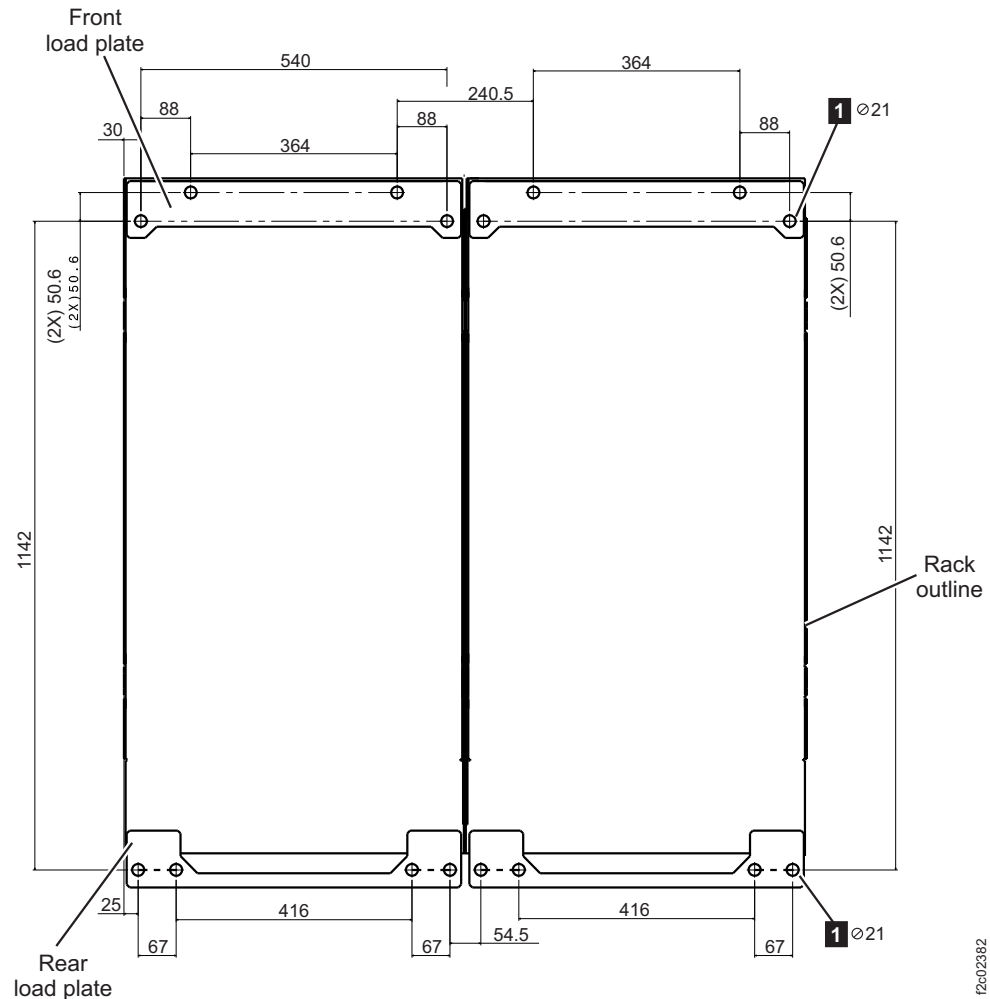

Figure 25. Location for fastener installation (nonraised floor)
- Use Figure 25 on page 154 to determine the placement of the loadplate fasteners **1** (four per loadplate). The pattern repeats for each frame. Dimensions are in millimeters (mm).